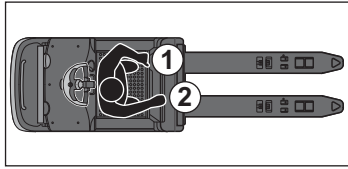

Fig. 22 Platform lift - operator position
- *Keep your entire body within the perimeter of the truck when lifting and lowering the platform, see Fig. 22.*